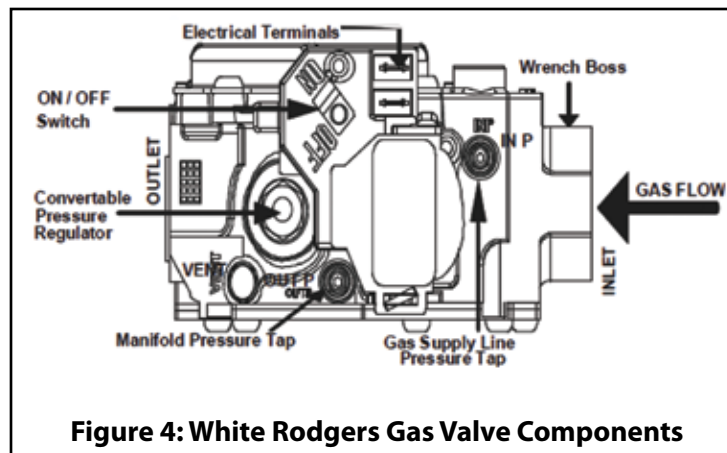

Figure 4: White Rodgers Gas Valve Components
5. Move the gas control switch to the "OFF" position. Do not force it. See Figure 4 for the switch location.
7. Move gas control switch to the "ON" position. Do not force it. See Figure 4 for the switch location.
4. Make sure the control switch on the gas valve is in the "ON" position. Refer to Figure 4 for the gas valve control switch location.